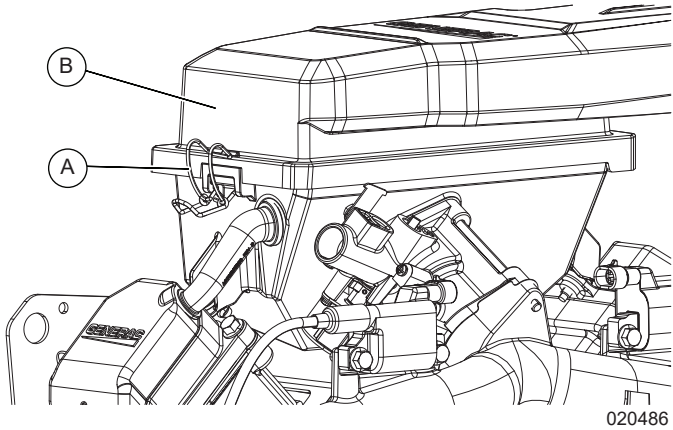

Figure 6-5. Release Hasp Securing Cover
1. See Figure 6-5. Lift up and release hasp (A) securing air box cover (B).